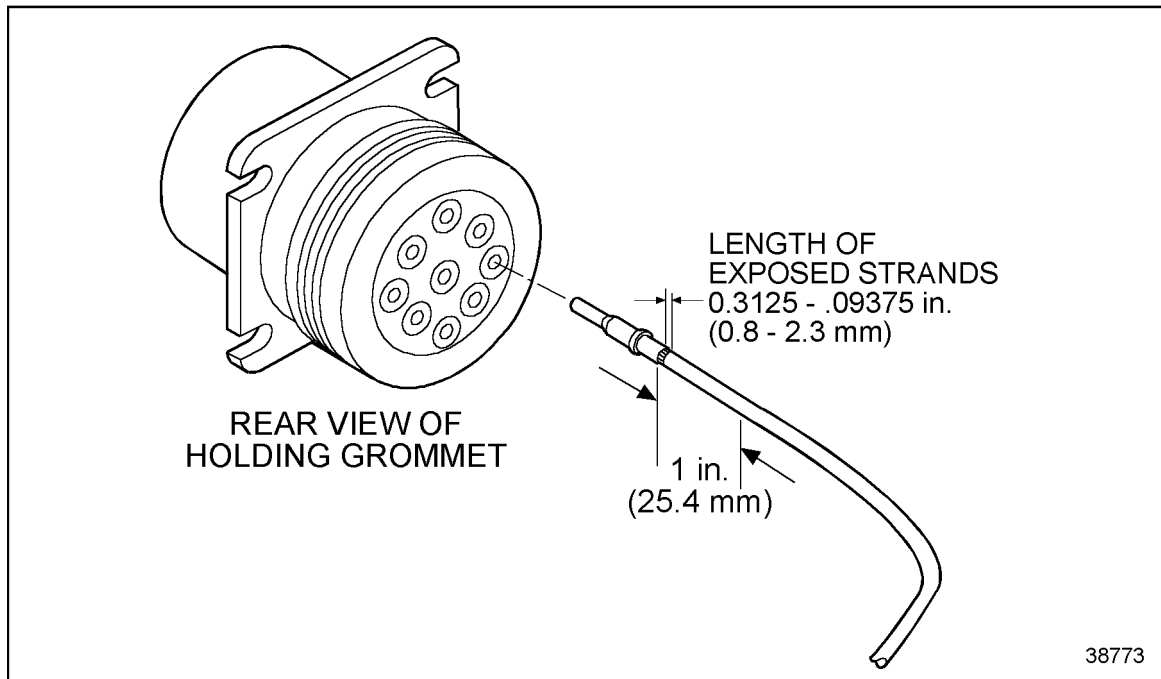
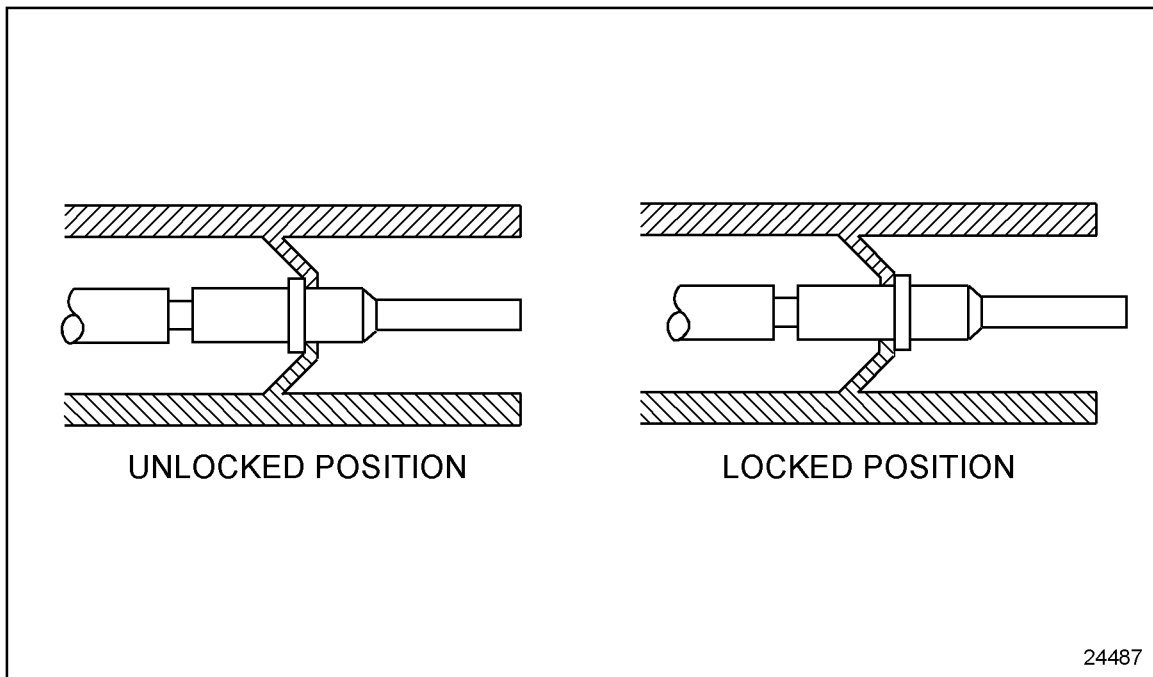

Figure 3-48 Pushing Contact Into Grommet
Figure 3-49 Locking Terminal Into Connector
5. Grasp the contact approximately one inch behind the contact crimp barrel. Hold the connector with the rear grommet facing you. See Figure 3-48.
6. Push the contact into the grommet until a positive stop is felt. See Figure 3-48. A slight tug will confirm that it is properly locked into place. See Figure 3-49.